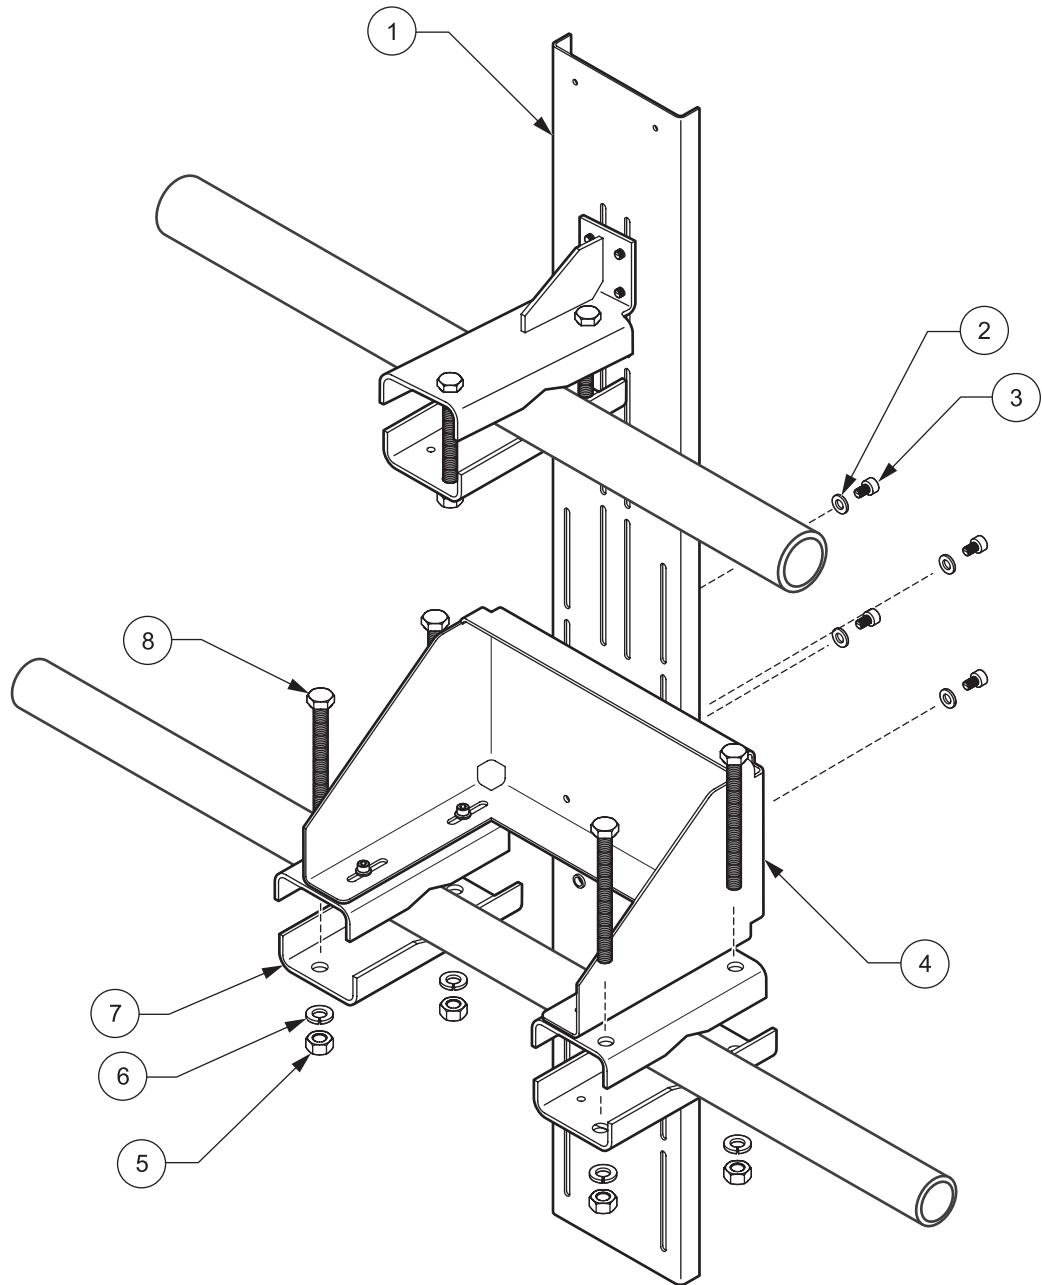

Figure 9 Installation of the angle bracket on the mounting rail
5. Loosely mount the angle plate to the mounting rail using M5 hex socket head screws and loosely screw it to the bottom rail with two U profiles (see Figure 9 on page 10).